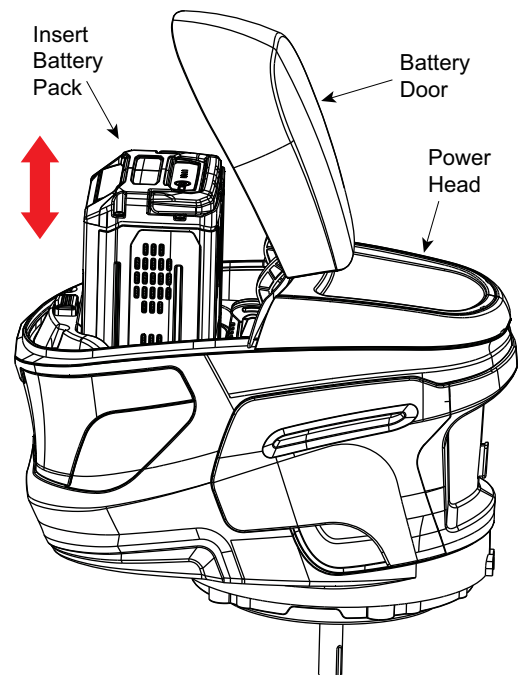

Fig. 14: Battery Pack Installation
- D. Align the ribs on the battery and the battery bracket. Push the battery pack into the battery compartment until you hear a "click" (see figure 14).